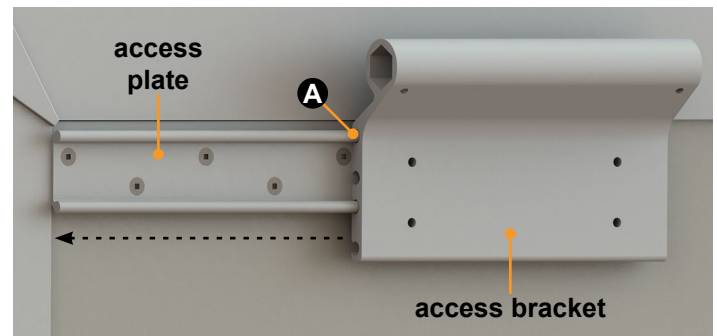
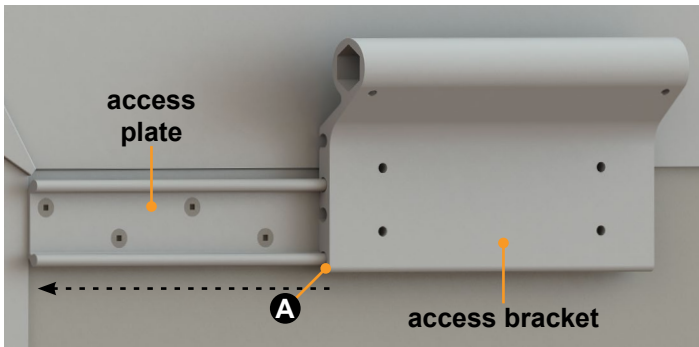

Fig.11
Fig.12
1. Slide an access bracket onto an access plate at the appropriate position (Fig.11 or Fig.12) at both ends of the slide room.
NOTE: Make sure the access bracket (Fig.12) is flush with the access plate, attached above or below the T-molding of the slide-out.
8. Install the two provided ¼" - 20 x ½" set screws in the top two holes of the access bracket (Fig.16) if using the lower position (Fig.11). Install two set screws in the lower two holes of the access bracket (Fig.17) if using the higher position (Fig.12).